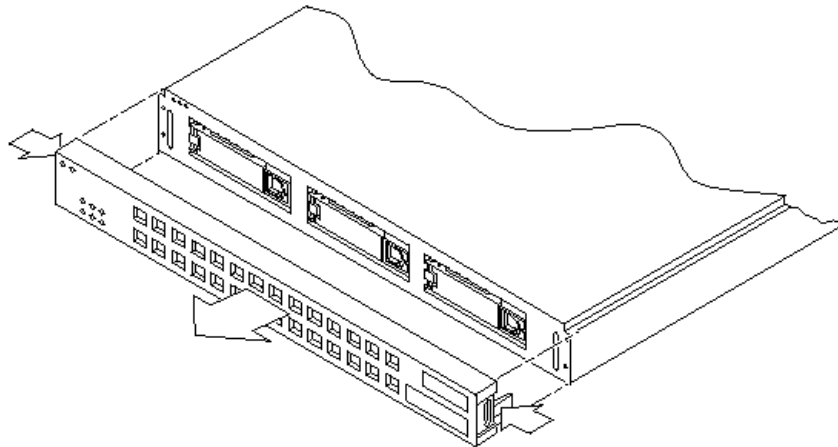

Figure 7-1 Removing the Front Panel
3. Remove the front panel by pressing the latches on both ends and pulling the panel away from the enclosure (Figure 7-1).